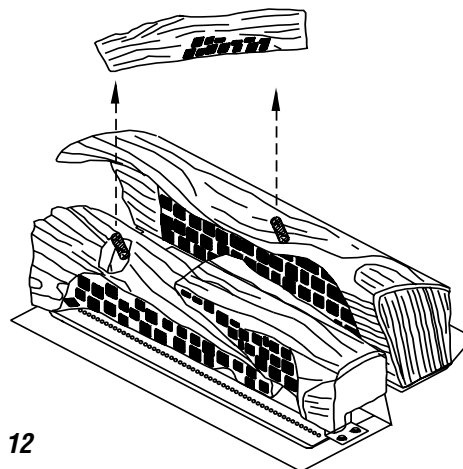

Figure 12
- 5) The remaining straight twig has two holes in the bottom. Position the twig so the black and white charring is to the front and slide the holes over the peg in the left front log and the peg in the rear log (**Figure 12**). It may be necessary to roll the top of the rear log slightly forward to put this twig on the pegs.